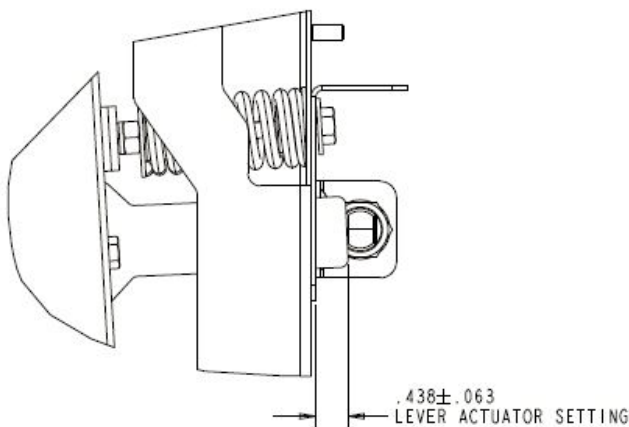

Fig. 48
5. Verify position of conveyor anti-jam actuator plate and jam sensor to ensure they are positioned as shown below and adjust as necessary (Figs 48 and 49).